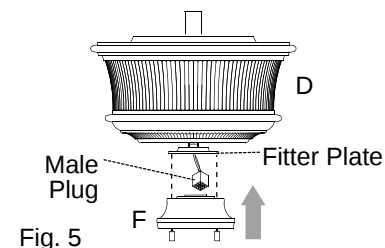

Fig. 5
5. Partially loosen two screws on fitter plate (on underside of motor) and remove the other screw. Align slotted holes in switch housing plate (F) with loosened screws in fitter plate, allowing male plug from fan to come through hole in middle of switch housing plate (F). Twist switch housing plate (F) to lock. Re-insert the screw that was removed and securely tighten all three screws. [Fig. 5]